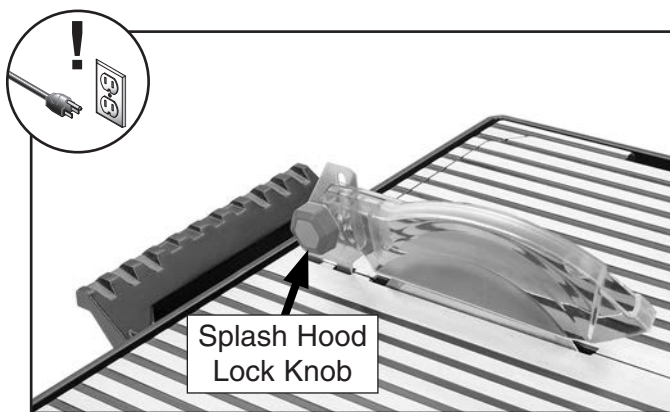

Figure 21. Splash hood lock knob location.
5. Loosen splash hood lock knob and adjust hood to height of tile (see **Figure 21**). Hood should be as close to tile as possible without touching.